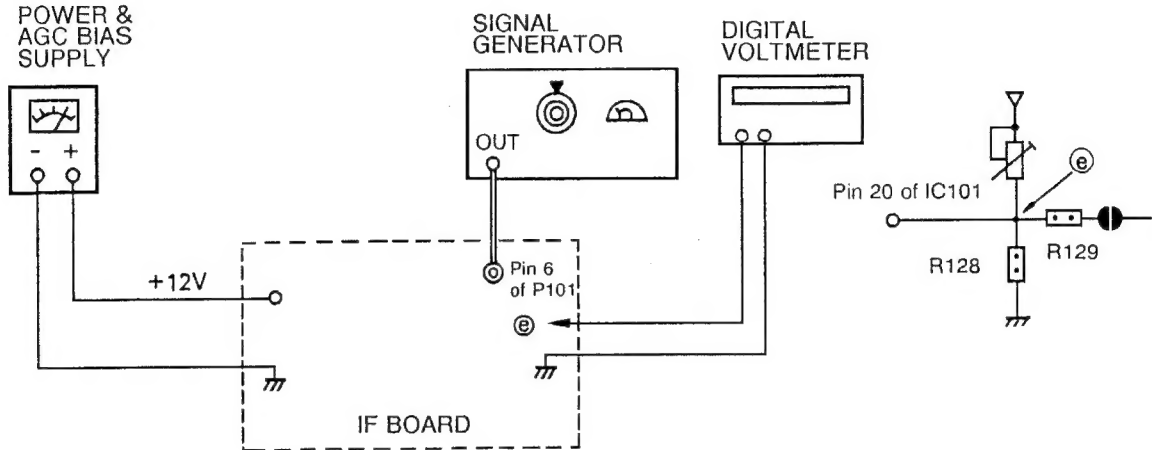

Figure 6. AFC Alignment
- GENERAL Refer to figure 6 for test equipment connection.
3. Supply +12 volts to the IF Board. (See figure 6.)
- DVM Connect to the resistor R128 (Ⓢ in figure 6) and ground.